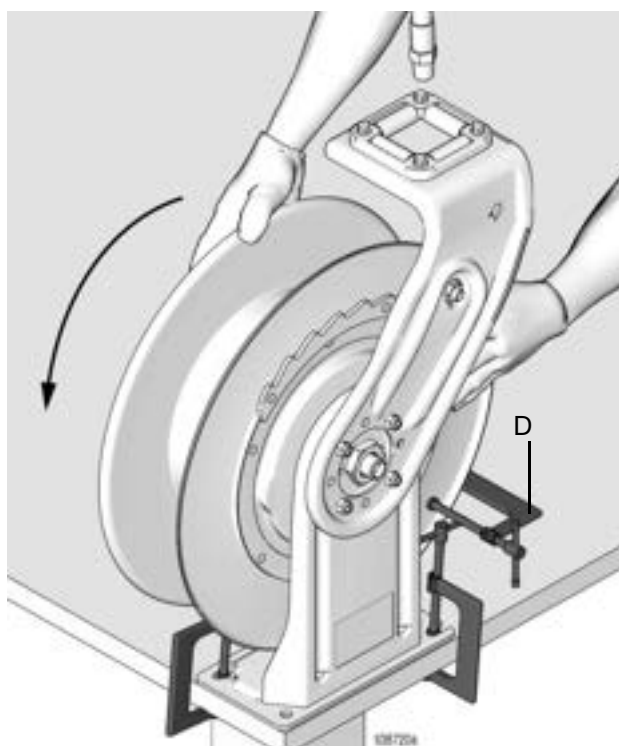
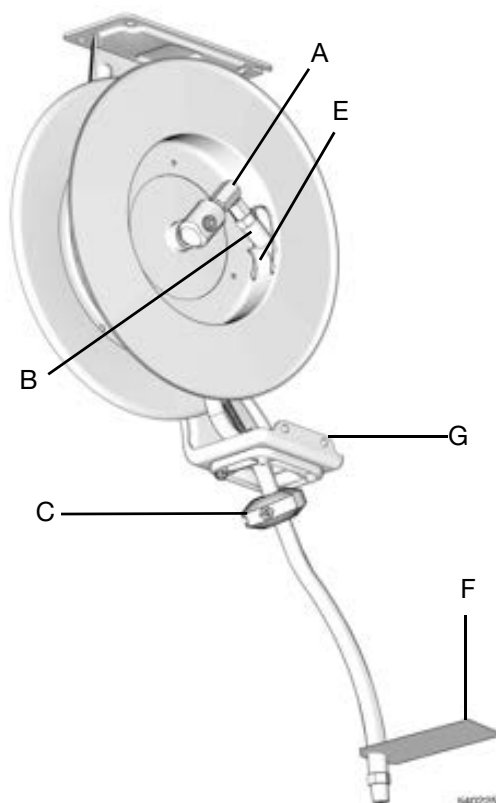
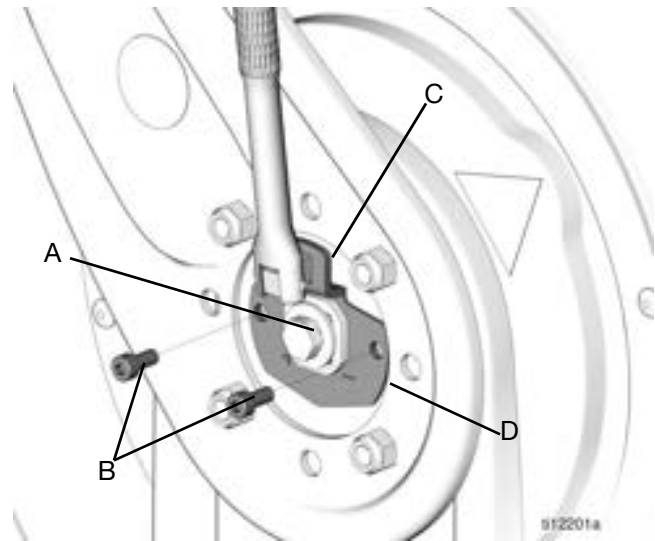

FIG. 15
FIG. 16
FIG. 17
4. While wearing heavy gloves, firmly grasp the outside edge of the reel flange with both hands. Wind the spool the correct number of turns (see reference table from Step 1), rotating the reel in the direction shown in FIG. 15.
- Stop the reel where there is access to the hose swivel (A) (FIG. 16), and where the reel is securely latched.
5. Before installation of the hose, attach a C-clamp (D, FIG. 15) to the reel flange to prevent the reel from unintentionally becoming unlatched and spinning freely.
7. Install the hose stop (C) (FIG. 16) to the end of the hose. If the hose has a warning tag (F), the hose stop should be installed on the same end of the hose as the warning tag.
8. Run the end of the hose (B) through the hose guide (G) and then to the hole (E) in the reel (FIG. 16).
9. Attach the hose end (B) to the hose reel swivel (A).
10. Carefully remove the C-clamp (D) (FIG. 15),
NOTE: The reference letters in the following instructions refer to FIG. 17.
NOTE: The reference letters in the following instructions refer to FIG. 16 and FIG. 17.